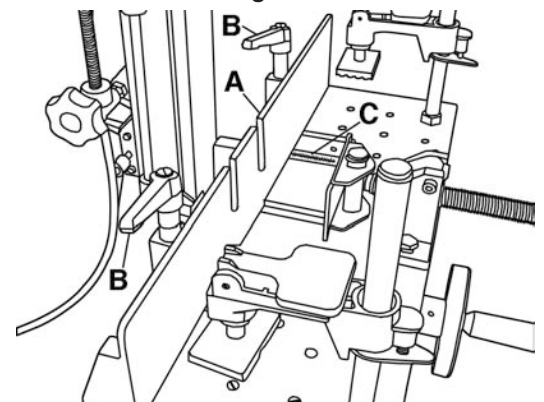

Figure 6
The fence (A) Fig.6 can be moved in or out by loosening the 2 lock handles (B) and sliding the fence to desired position. The sliding table includes a scale (C), if you desire to set the fence at 2" away from the center of the drill bit, slide the fence to the 2" mark on the scale and tighten the 2 lock handles (B). It is very important that the fence be positioned parallel with the travel of the sliding table. The easiest way to achieve this is to measure from the front edge of the table to the fence. Tip: Because of the necessity of constantly setting the resetting the fence, it could be very useful to scribe a series of parallel lines (about 3mm apart) on the table to aid the setting operation.